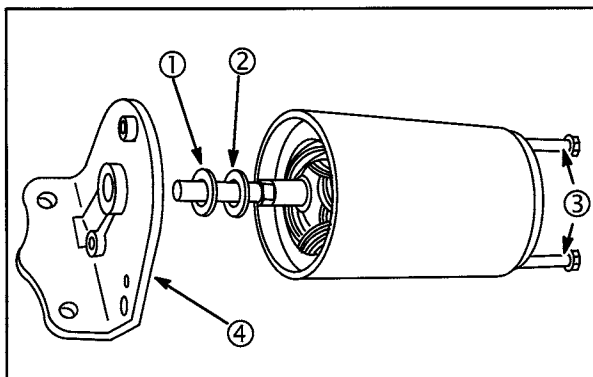

Fig. 28
1. Assemble spacer washer (1) and spring washer (2, if equipped) to armature shaft, Fig. 28.
2. Assemble drive end cap (4) to armature shaft.
4. Install thru bolts (3). Torque to **50 in. lbs. (6 Nm)**.